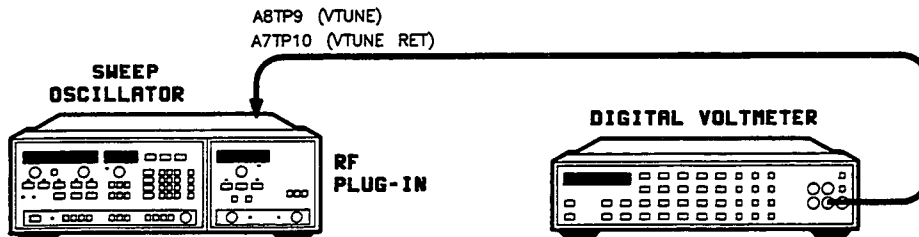

Figure 5-5. YO and YTM DAC Calibration Test Setup
1. Connect the equipment as shown in Figure 5-5 with DVM HI connected to A6TP9 (VTUNE) and DVM LO connected to A6TP10 (VTUNE RET). Refer to Figure 5-6 for test point and adjustment locations. Allow the RF plug-in to warm up for 1 hour.